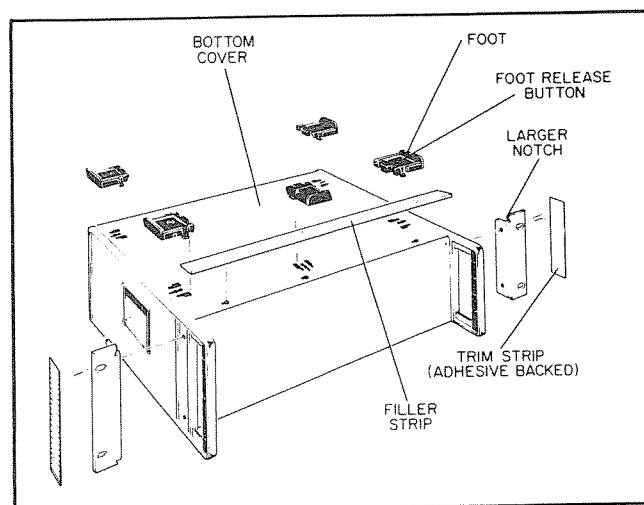

Figure 2-2. Conversion for Rack Mounting
2-27. The HP 5061B is shipped from the factory ready for operation as a bench instrument. Parts necessary to convert the HP 5061B for rack mounting are available as a kit. To convert for rack installation, refer to Figure 2-2 and proceed as follows:
- Attach mounting brackets to sides with larger corner notch toward bottom of cabinet. See Figure 2-2. The HP 5061B is ready to mount in a standard 19-inch rack.